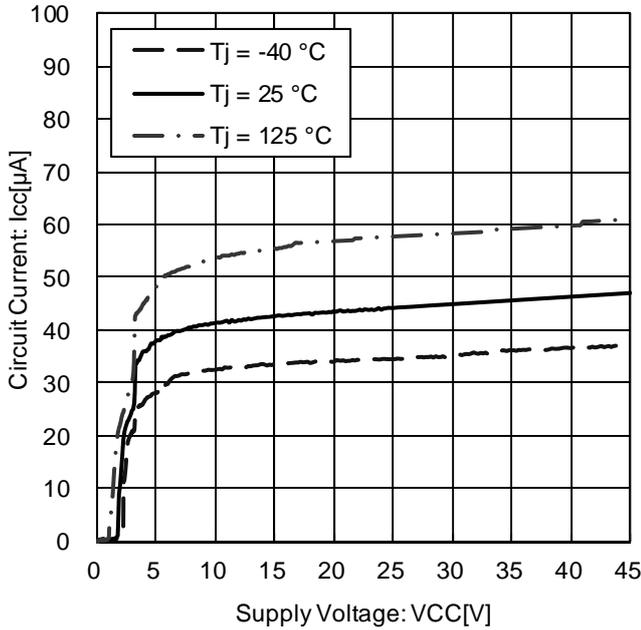

Figure 5. Circuit Current vs. Power Supply Voltage
*magnified Figure 5. at low supply voltage